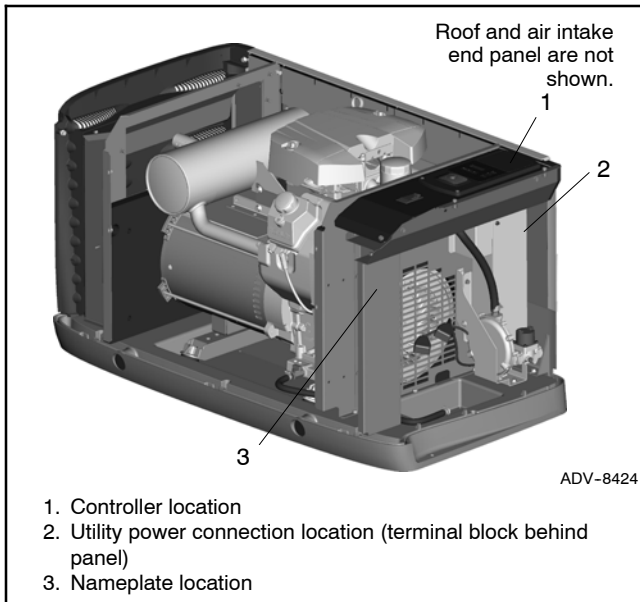
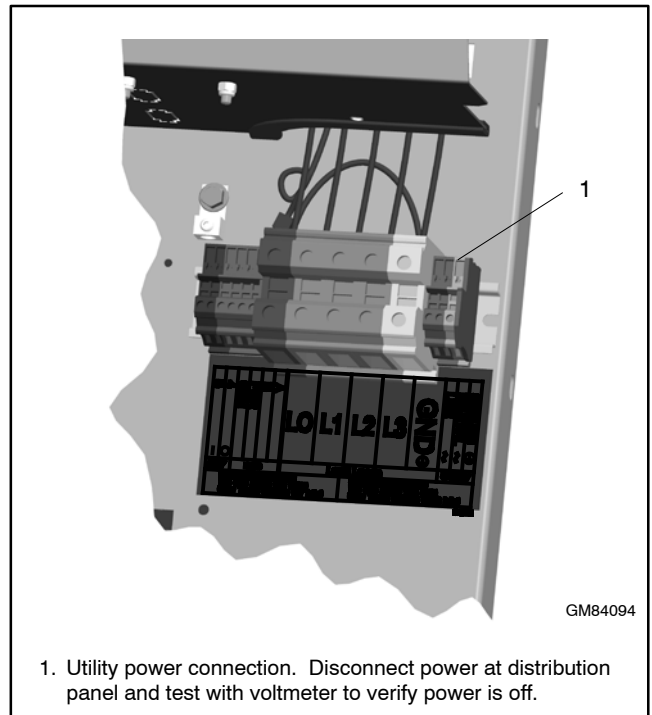
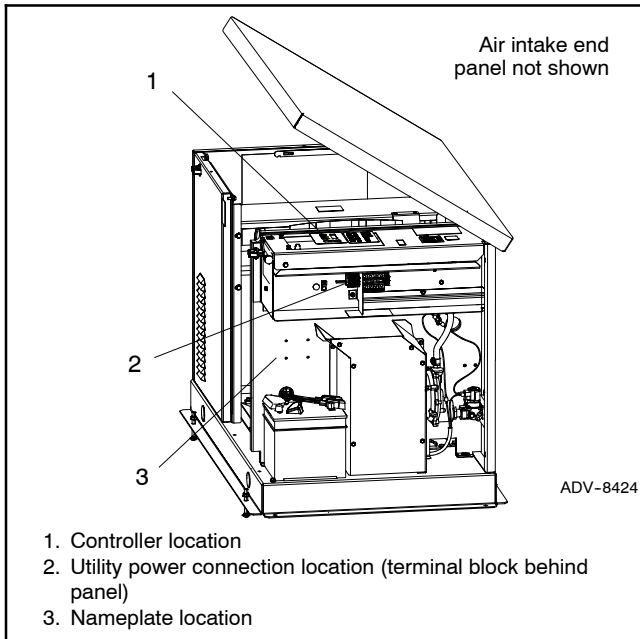

Figure 4-7 Controller, Utility Power Connection, and Nameplate Locations, 14/20RESA(L), 20RESC(L)
Figure 4-9 Power Connection Detail (RESA shown)
Figure 4-8 Controller, Utility Power Connection and Nameplate Locations, 20RESB/RESD
3. Disconnect utility power to the generator set by opening the circuit breaker in the building's distribution panel. Use a voltmeter to verify that utility power has been disconnected. See Figure 4-7 (14/20RESA/L, 20RESC/L) or Figure 4-8 (20RESB/D) for the utility power connection location. See Figure 4-9 for the utility power connection detail on the generator set terminal block.
- Some of the required information can be found on the generator set nameplate. See Figure 4-7 or Figure 4-8 for the nameplate location.